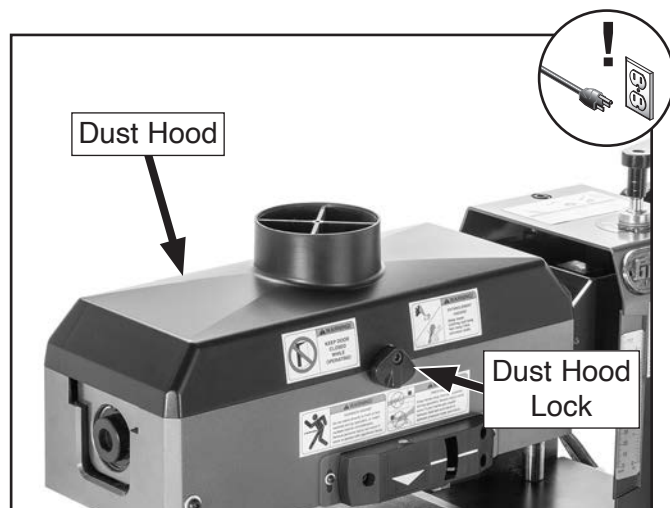

Figure 14. Location of dust hood and lock.
2. Rotate dust hood lock counterclockwise, then open dust hood (see **Figure 14**).